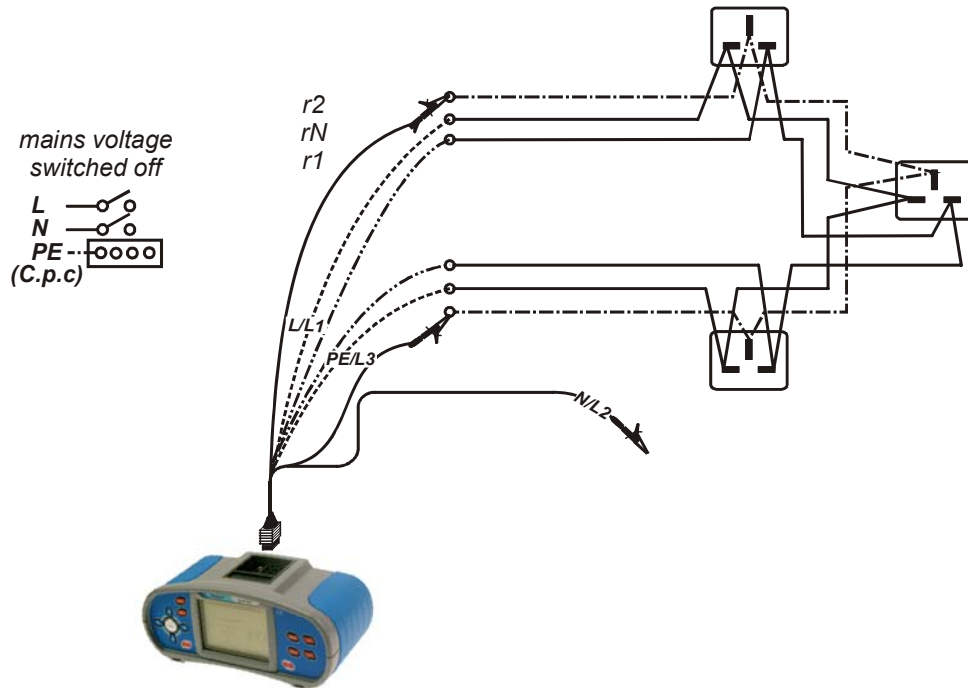

Figure 5.19: Step 1 – measurement of resistances  $r_1$ ,  $r_N$  and  $r_2$
- ❑ For r1, rN, r2 measurements refer to figure 5.19.
- For the following measurements refer to figure 5.19.